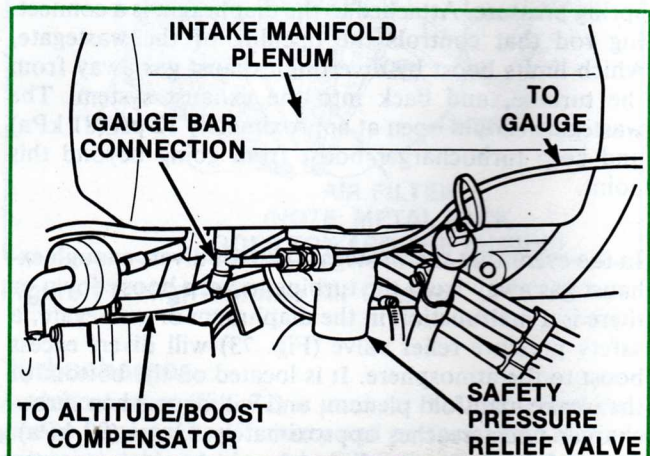

Figure 75. Checking Charging Pressure
1. Connect the 0-15 psi gauge to the base of the intake manifold plenum (Fig. 75).